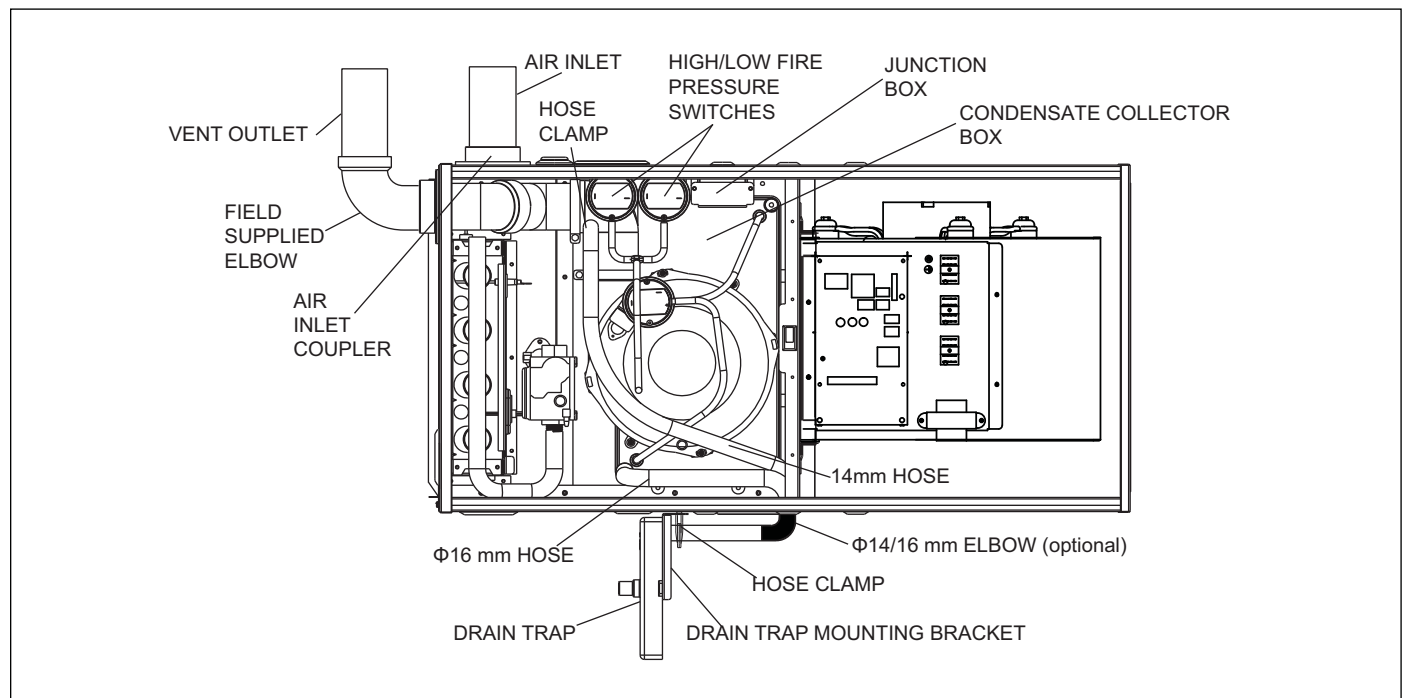

Figure 16 Horizontal Left Side Installation, Vent Through Top Panel
For installations with left air discharge and venting outlet through furnace top panel (see Figures 16 and 17).
9. Connect 14 mm hose between the side inducer drain port (remove black rubber plug to connect hose) and drain trap. Refer to Figure 16.
14. Relocate the High/Low Fire Pressure Switches (2) to the opposite side of the cabinet (as shown in Figure 16 and 17). Screws for mounting these switches should not interfere with any components inside the furnace.